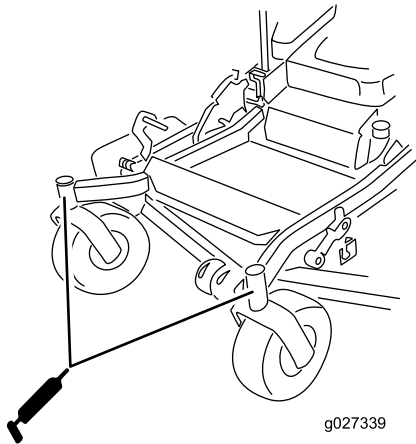

Figure 42
9. Remove the grease fitting from the hole. Install the hex plug and dust cap (Figure 42).